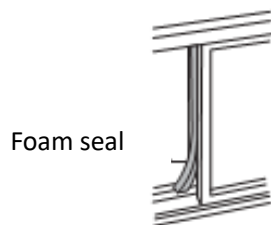

Fig. 15
5. Cut the foam seal to an appropriate length and sea the open gap between the top window sash and outer window sash. Shown as in Fig.15